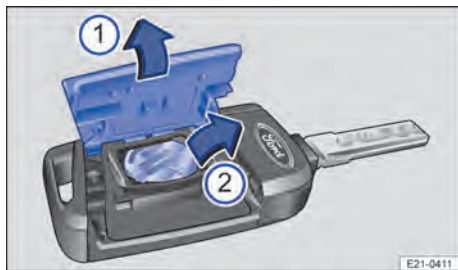

Fig. 52 Vehicle key: changing the button cell.
There are two options for changing the button cell in the vehicle key, depending on the equipment: → Fig. 52 and → Fig. 53.
2. Open the cover upwards → Fig. 52 ①.
3. Remove the button cell from the battery compartment ②.
4. Press the new button cell of the same specification into the battery compartment → ①.